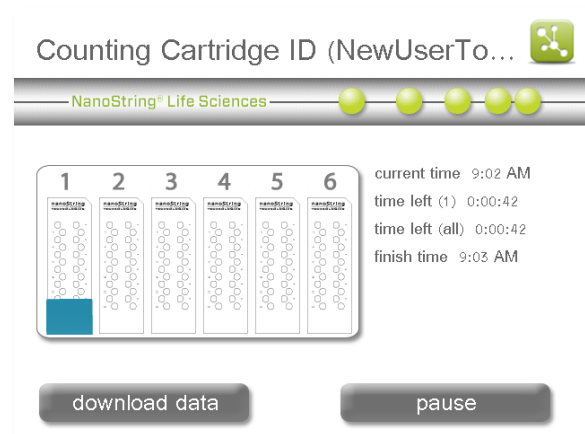
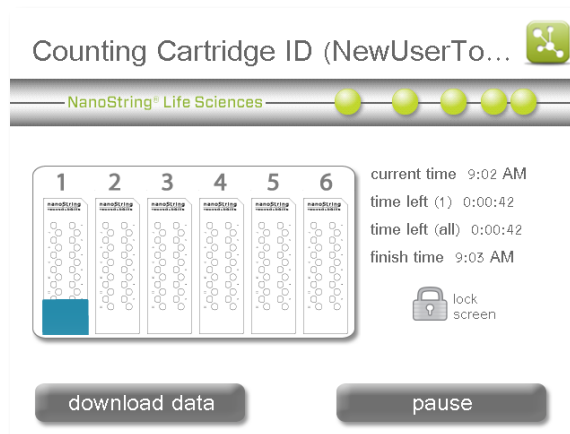

Figure 90: The 'Counting Cartridge ID' screen with information on the run in progress.
Figure 92: The 'Counting Cartridge ID' screen when it is unlocked, with the **lock screen** button visible.
The 'Counting Cartridge ID' screen will appear (**Figure 90**). Once imaging has begun, the door will remain locked until the system is paused or the run is complete.
Press the light grey **unlock** button to log in. The screen will lighten (**Figure 92**), and the user will be able to download data (while the run continues) or pause the run.
1. On the 'Counting Cartridge ID' screen (**Figure 90** or **Figure 92**), press **pause**.
1. In the 'Counting Cartridge ID' screen (**Figure 90** or **Figure 92**), press **pause**.
1. On the 'Counting Cartridge ID' screen (**Figure 90** or **Figure 92**) press **pause**.